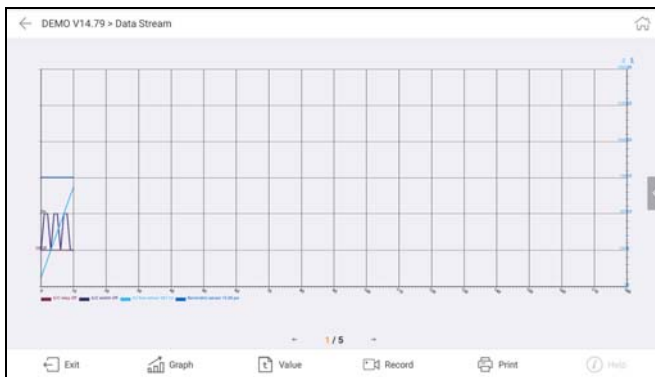

Fig. 5-11
- ✓ **Combine** – this option is mostly used in graph merge status for data comparison. In this case, different items are marked in different colors. See Fig. 5-11.